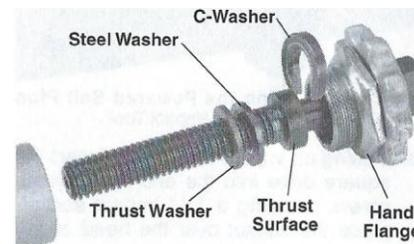

Figure 2 - Unit Assembly: Orient C-Washer and Steel Washer With Chamfer Towards Thrust Surface
3. Yearly (or more often under heavy use), disassemble the cutter by turning the hand flange clockwise (left hand thread). Remove the C-washer and unscrew the feedscrew from the cutter. Clean the feedscrew and washers and apply a good quality extreme pressure (EP designation) grease to points of relative motion when reassembling. See Figure 2.